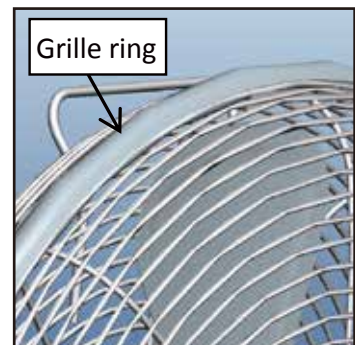

Figure 6.
- Slide the **Grille Ring** over both **Front and Back Grilles**, turning the ring so that the screw that secures it, is on the bottom. **Figure 6**